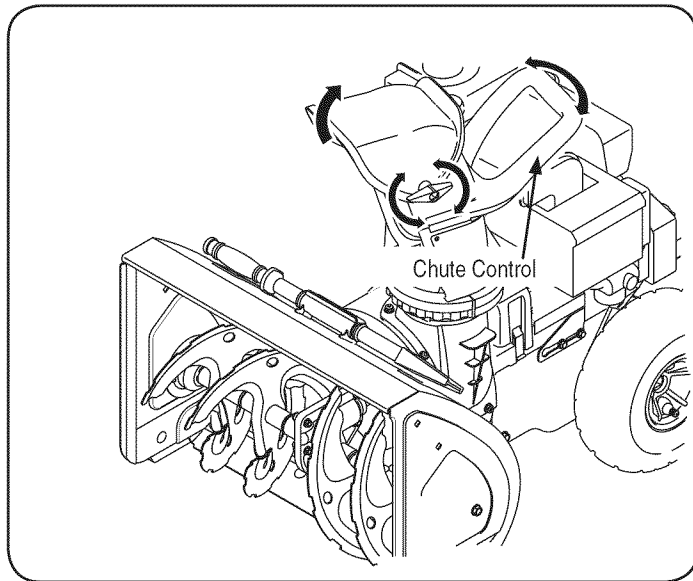

Figure 8
2. Tighten the wing knob on the upper chute making sure the carriage bolt is correctly positioned. Refer to Fig. 8.